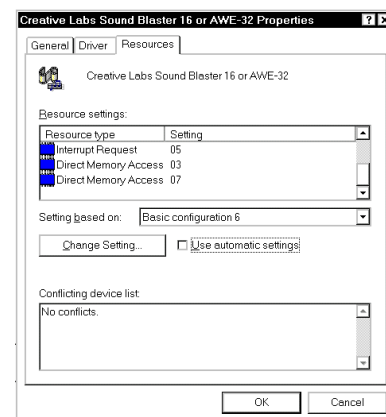

Figure 4: Sample of Card Settings. Your settings will differ.
8. Write down the recommended configuration for the card (Figure 4). If instead of hardware settings the message "You are using other hardware that conflicts with the hardware you are trying to install." appears, go to the section titled Reallocating System Resources.
8. Once a usable IRQ or other problem resource is freed up, reboot the computer and retry the Determining Correct Settings Under Windows 95 procedure. If this second try results in a screen like figure 4, proceed to Installing the Adaptec Card.